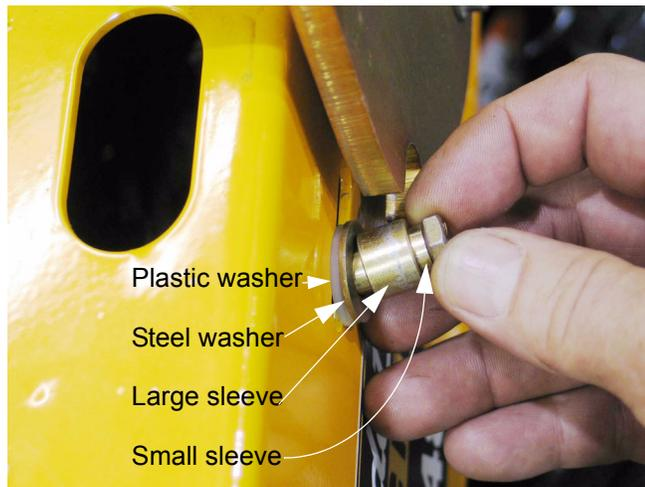

Figure 21.36
21.36. The steering lock post is installed on the control housing as illustrated below. See Figure 21.36.